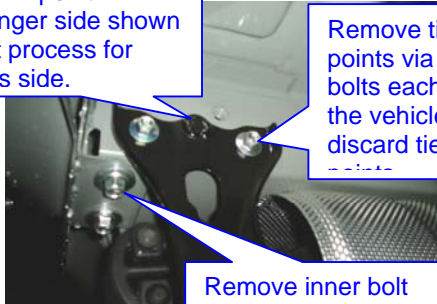

Fig 1
- Remove tie down points by removing the 2 M8 bolts each side of the vehicle see fig 1 then discard tie down points.